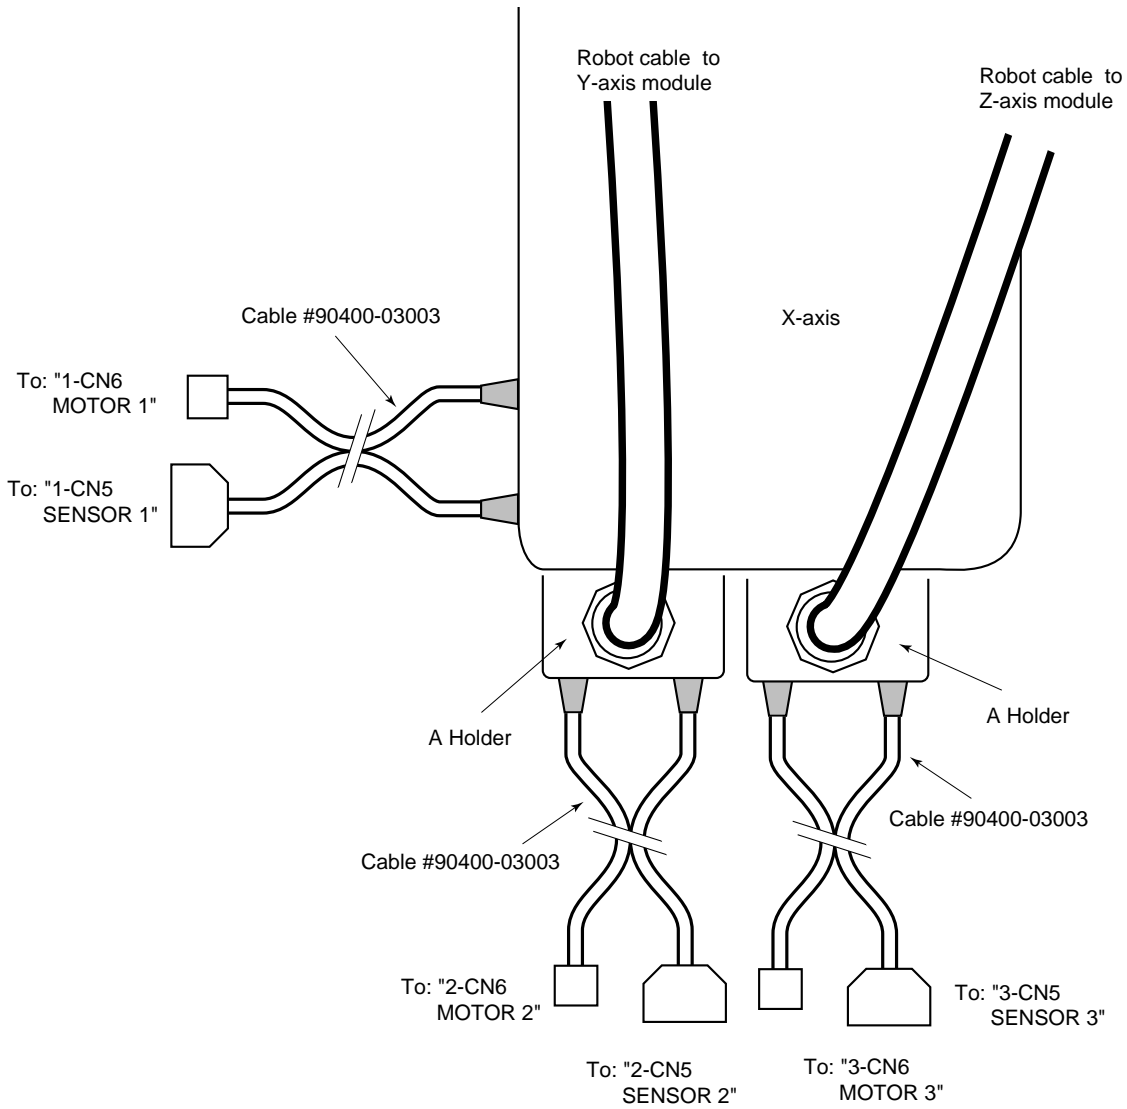

Figure 5-4. Connecting to an EXA or EXC Controller
- a. Connect the two barrel ends of the cable to the X-axis module as shown in Figure 5-4. These connectors have different pin sizes and cannot be installed incorrectly. The other ends connect to the controller connections marked “1-CN6 MOTOR 1” and “1-CN5 SENSOR 1”.
- b. Attach the A holder end of the robot cable to the side of the X-axis as shown in Figure 5-4 (refer to Section 4.3 for holder mounting).
- c. Connect the two barrel ends of the controller cable to the Y-axis cable (holder A) as shown in Figure 5-4. These connectors have different pin sizes and cannot be installed incorrectly. The other ends connect to the controller connections marked “2-CN6 MOTOR 2” and “2-CN5 SENSOR 2”.
- c. Connect the two barrel ends of the controller cable to the Z-axis cable (holder A) as shown in Figure 5-4. These connectors have different pin sizes and cannot be installed incorrectly. The other ends connect to the controller connections marked “2-CN6 MOTOR 3” and “2-CN5 SENSOR 3”.